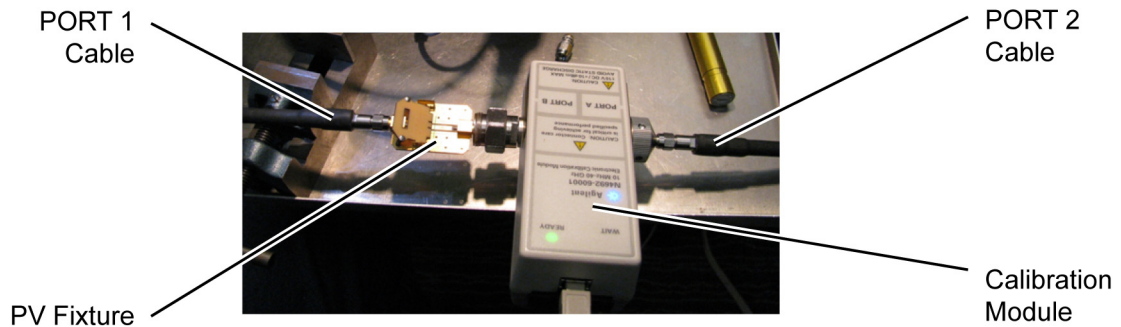

Figure 44 Test Setup for Calibration
- 6 Connect the calibration module and PV fixture as shown in **Figure 44**. Connect the **PORT 1** cable to the input (pincher side) of the PV fixture. Connect the **PORT 2** cable to the output of the calibration module.